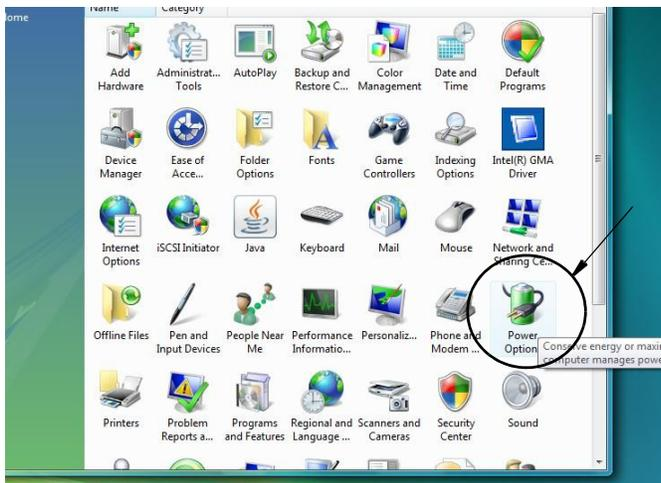

FIG. 17
2. Select the Power Options Icon (FIG. 17).